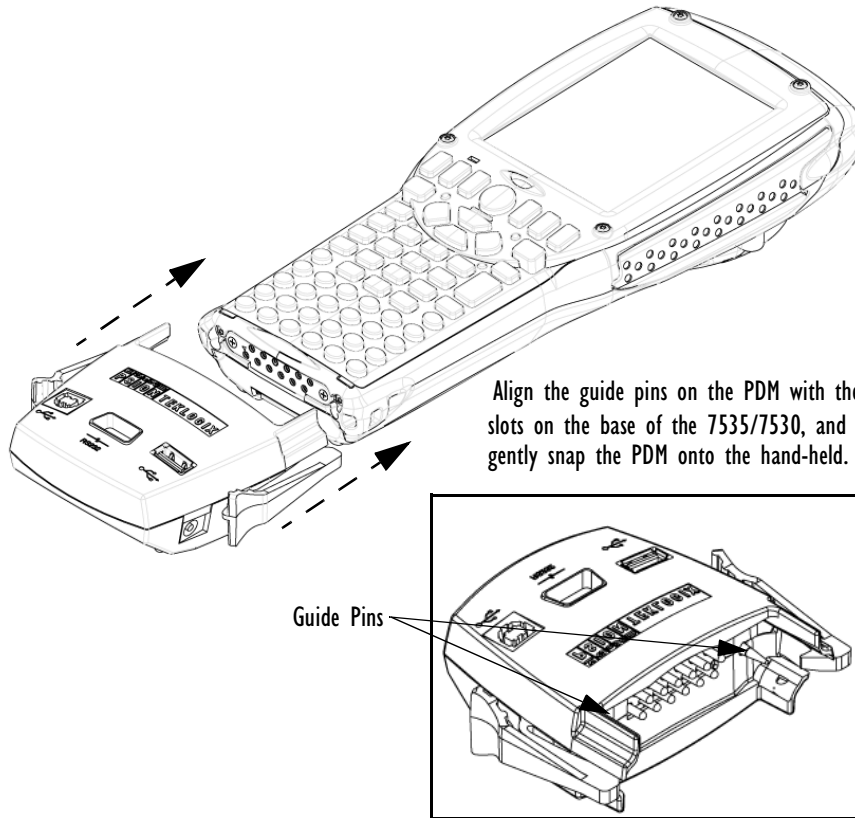

Figure 7.1 Attaching The PDM To The Base Of The 7535/7530
- Gently snap the PDM into place on the base of the unit. Figure 7.1 on page 336 provides a visual representation of how to secure the PDM.